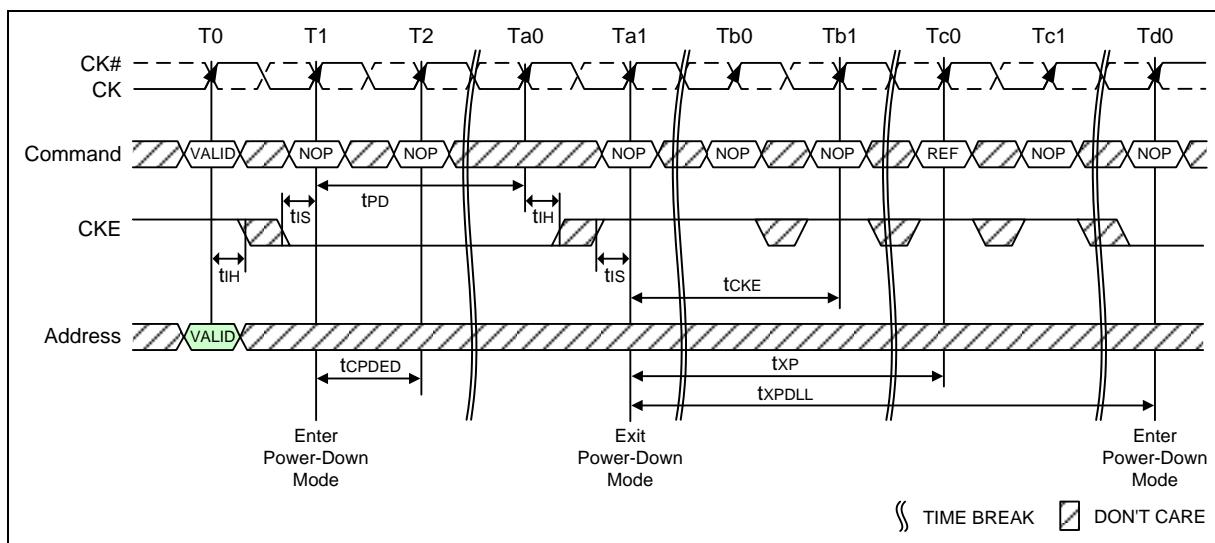

Figure 70 – Power-Down Entry/Exit Clarifications - Case 2
- 2) tXP DLL must be satisfied (referenced to the registration of PD Exit) before the next power-down can be entered. A detailed example of Case 2 is shown in Figure 70.